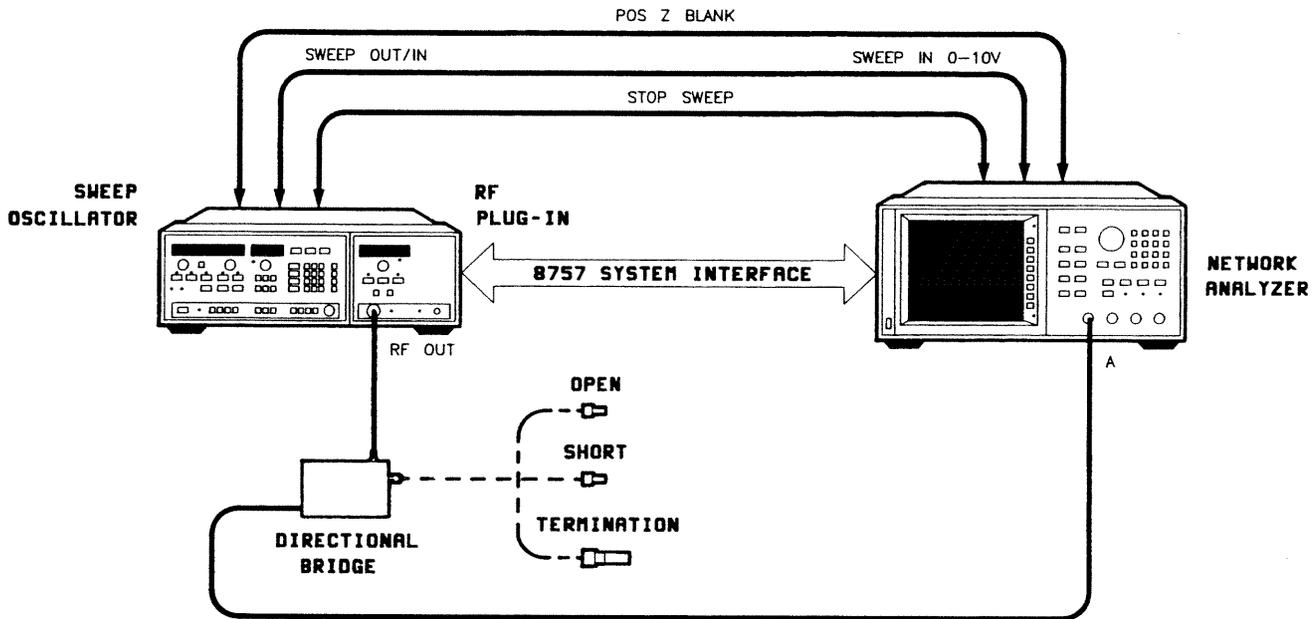

Figure 3-3. Operator's Check Setup
1. Connect the equipment as shown in Figure 3-3 with no connection to the bridge test port. Allow 30 minutes warm-up. Set the bridge configuration switch to **HP 8757**.